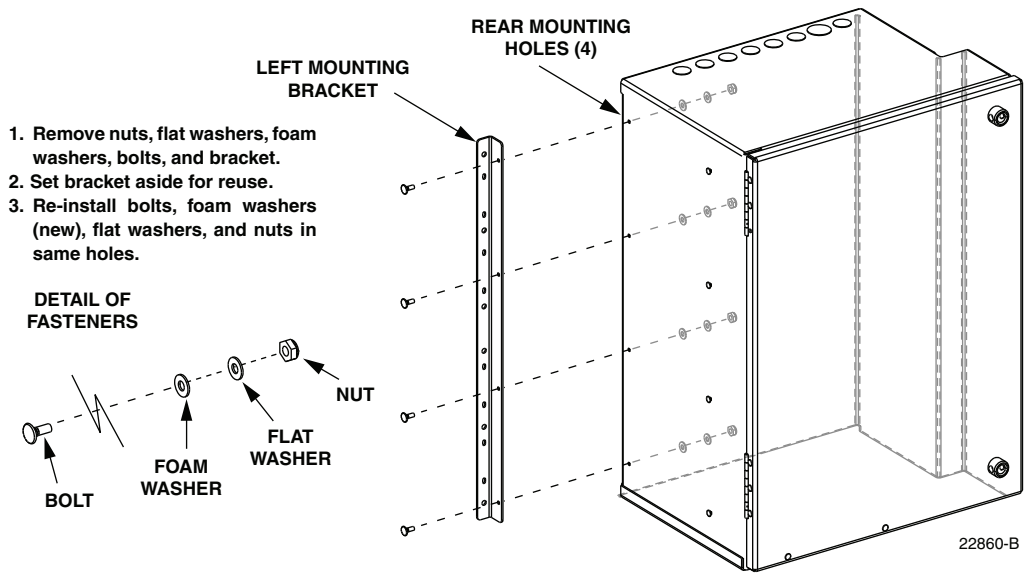

Figure 3. Remove Left Mounting Bracket From Left-Rear Mounting Position
2. Remove the nuts, flat washers, foam washers, and carriage bolts (four of each) that secure the **left** mounting bracket to the **left-rear** side of the cabinet as shown in Figure 3.